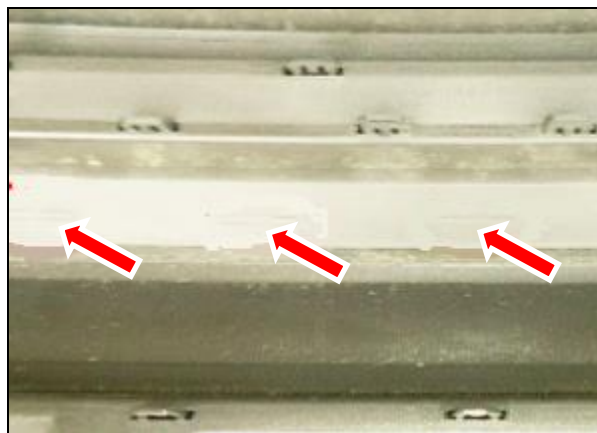

Figure 12
19. Ford also has (x9) reference lines to cut out the slits for the new rear valance to clip into. Cut the (x9) slits using the reference line (**Figure 12**).